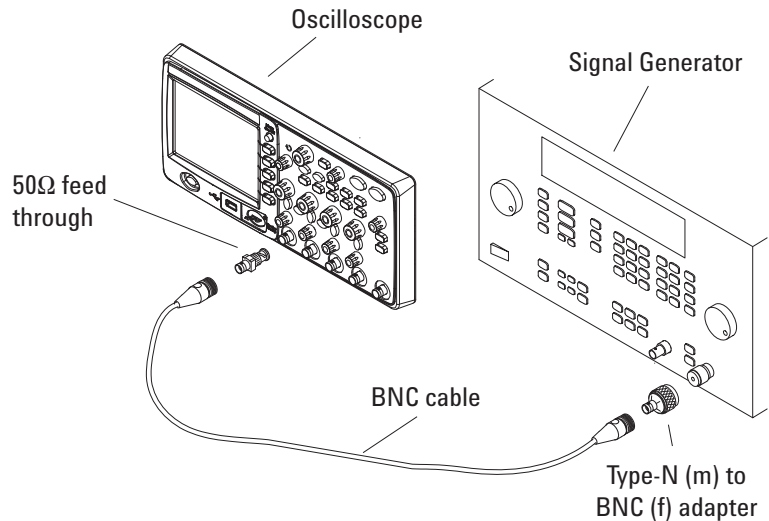

Figure 10 Connecting Equipment for Trigger Sensitivity Test
- 1 Connect the equipment (see **Figure 10**).